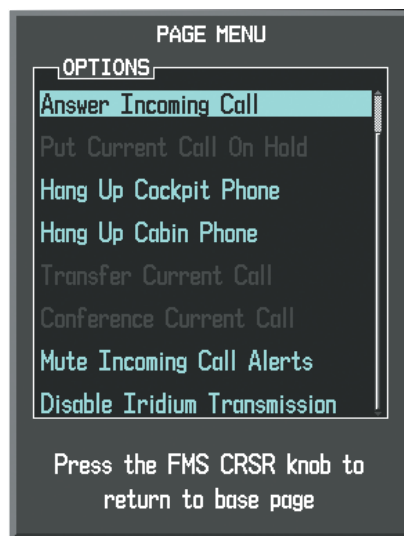

Figure 8-77 Telephone Page Menu
- 3) Turn either **FMS** Knob to place the cursor on ‘Answer Incoming Call’ (Figure 8-77).